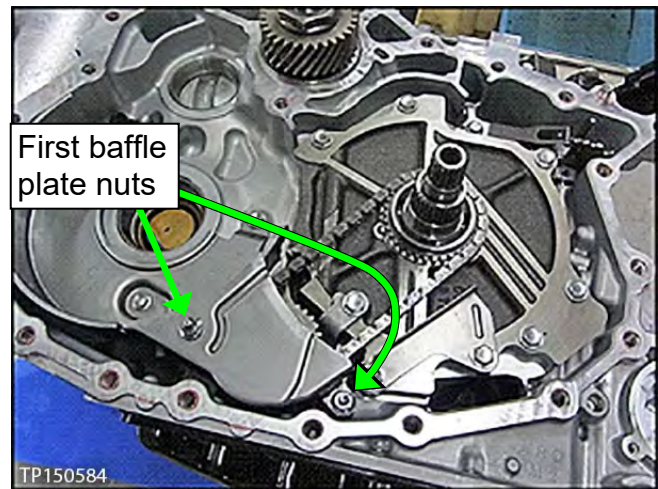

Figure 38
1. Remove the two (2) nuts, and then remove the first baffle plate (see Figure 38).